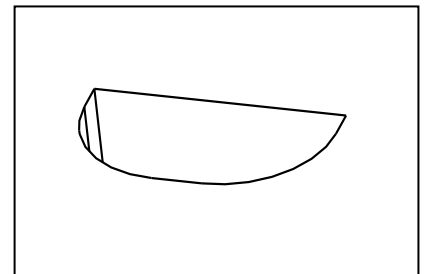

Fig. 1
1. Dig a hole 25 inches x 13 inches x 12 inches deep. Fig. 1